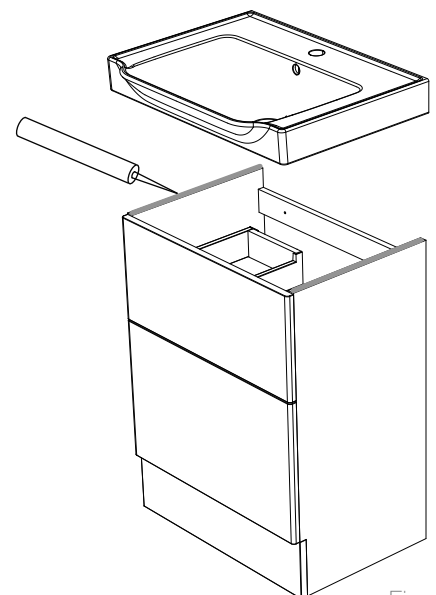

Figure 1
- Apply a bead of silicone to the basin on 2 sides to fix to and protect the side panels as per figure 1.